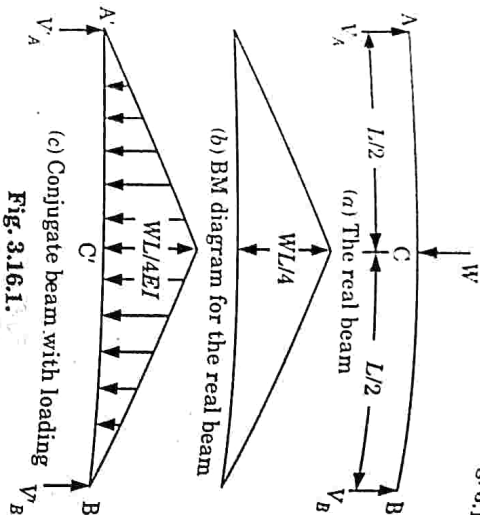

Fig. 3.16.1.
1. Fig. 3.16.1(a) shows the real beam; BM diagram for the real beam is shown in the Fig. 3.16.1(b).
2. The  $M$  diagram of the real beam becomes the elastic weight of the conjugate beam. The conjugate beam  $A'C'B'$  (corresponding to the real beam  $ABC$ ) with the loading is shown in Fig. 3.16.1(a).